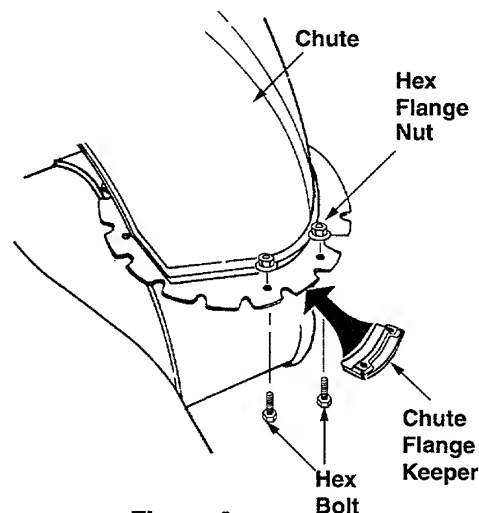

Figure 6
- Place the chute flange keeper (flat side down) beneath lip of chute assembly as shown in Figure 6. You will find the chute flange keepers in group E of the hardware pack.
- Insert 1/4-20 hex bolt from group E of the hardware pack (on page 6) up through chute flange keeper and chute assembly as shown in Figure 6. Do not tighten at this time. Rotate chute to install all the flange keepers.